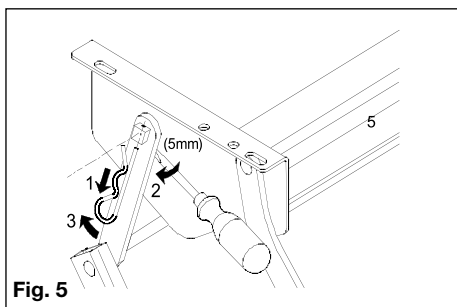

Fig. 5
the square connection according to fig. 5 (actions 1, 2 and 3), push the footboard in (4) and tie it to the frame.